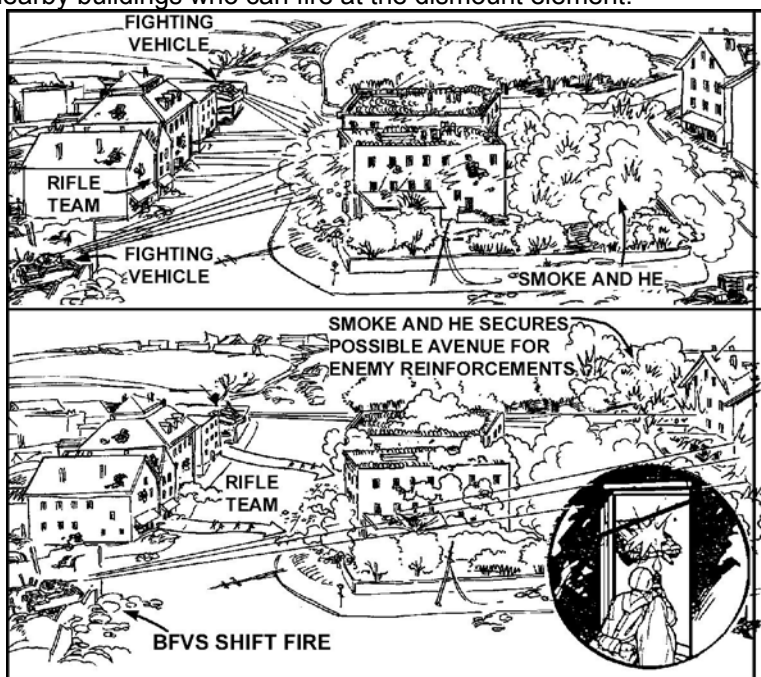

Figure 1. Isolating a building.
- a. Isolate the building (Figure 1). The fighting vehicle element, supported by indirect and direct fire, isolates the building. Place the fighting vehicle element in an overwatch position. Then direct the fires of the M2s and adjust indirect fires to suppress enemy troops in the building and those in nearby buildings who can fire at the dismount element.